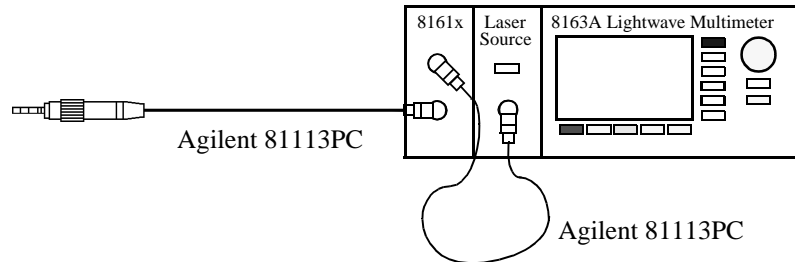

Figure 8 Return Loss Measurement Setup - External Source used
- 1 Making sure all the connectors are clean, set up the instrument as shown in Figure 8 if you are using an External Source,